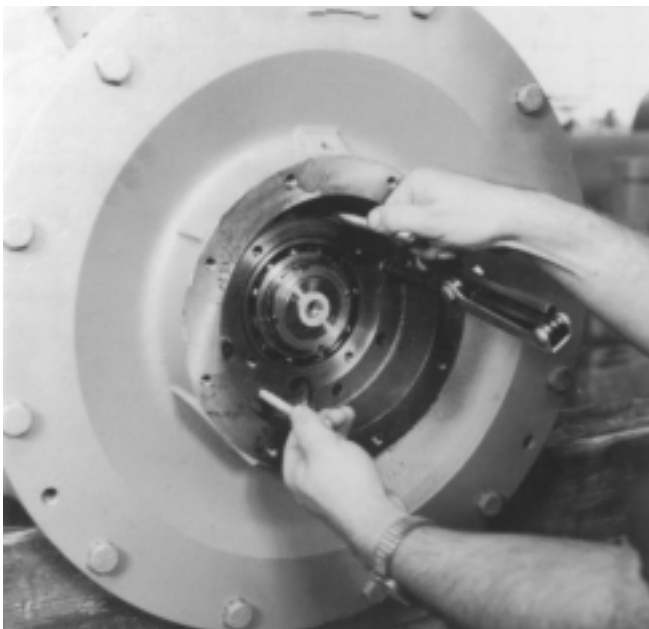

**Figure 41. Installing opposite drive end bearing seal.**
**Note: Skip to Figure 41 for all CVHE, CVHF, and CVHG except extended capacity (CVHF 1470 or CVHF 1720) compressors.**
- 7. Install 3/8" -16 threaded rod into the opposite drive end bearing seal. Align the seal so that the oil drain hole is on the bottom. Be sure the gasket is installed and located properly. Refer to Figure 41.